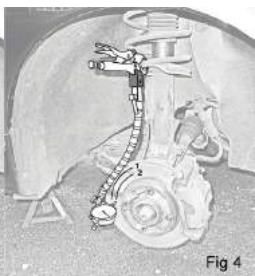

Fig 4
- For best results measurements should be taken from both sides of the disc and from two or more different radii on each side of the disc. Refer to Fig. 4.